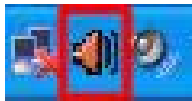

Figure B-1: Realtek HD Audio Manager Icon [Task Bar]
- The Realtek HD Audio Manager icon in the Notification Area of the system task bar (**Figure B-1**), or